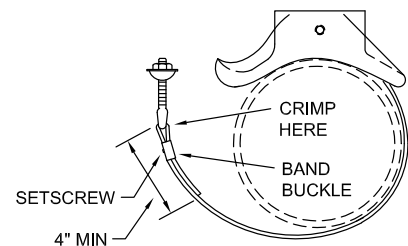

Figure 4
5. With a pair of pliers, crimp the bend in the band around the clamp screw and slide Band Buckle on the free end of the band as close to the screw assembly as possible. (Figure 4). Tighten the setscrew in the band buckle snugly with Allen Wrench.